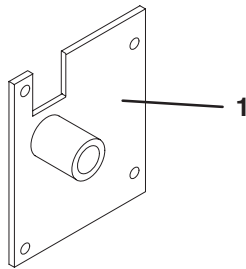

Figure 10
1. Using the mounting holes in the left side of the frame, secure the left hopper mounting bracket to the frame with (4) 5/16 – 18 x 1–1/4” capscrews and locknuts (Fig. 10). The notch in the bracket is to fit around the hood latch.